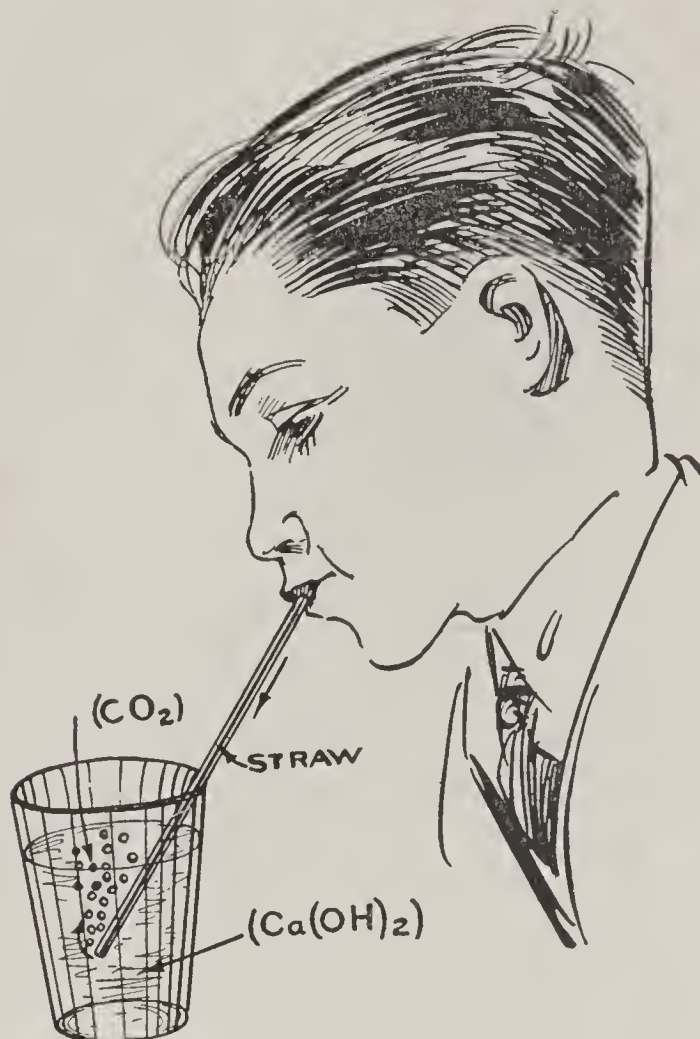

FIG. 52.—A Simple Way to Show Carbon Dioxide.
To Show that You Inhale Oxygen and Exhale Carbon Dioxide. You can easily show that after you inhale oxygen (O) you exhale carbon dioxide (CO_2) by means of this very simple experiment. Fill a tumbler about three-fourths full of lime-water, that is, calcium hydroxide ($Ca(OH)_2$); then take a good deep breath (oxygen (O)) and blow through a straw into the lime-water, as shown in Fig. 52. The clean lime-water will be made murky by the formation of calcium carbonate ($CaCO_3$) in it, and for the same reason as explained under the foregoing caption of "How the Experiment Works."